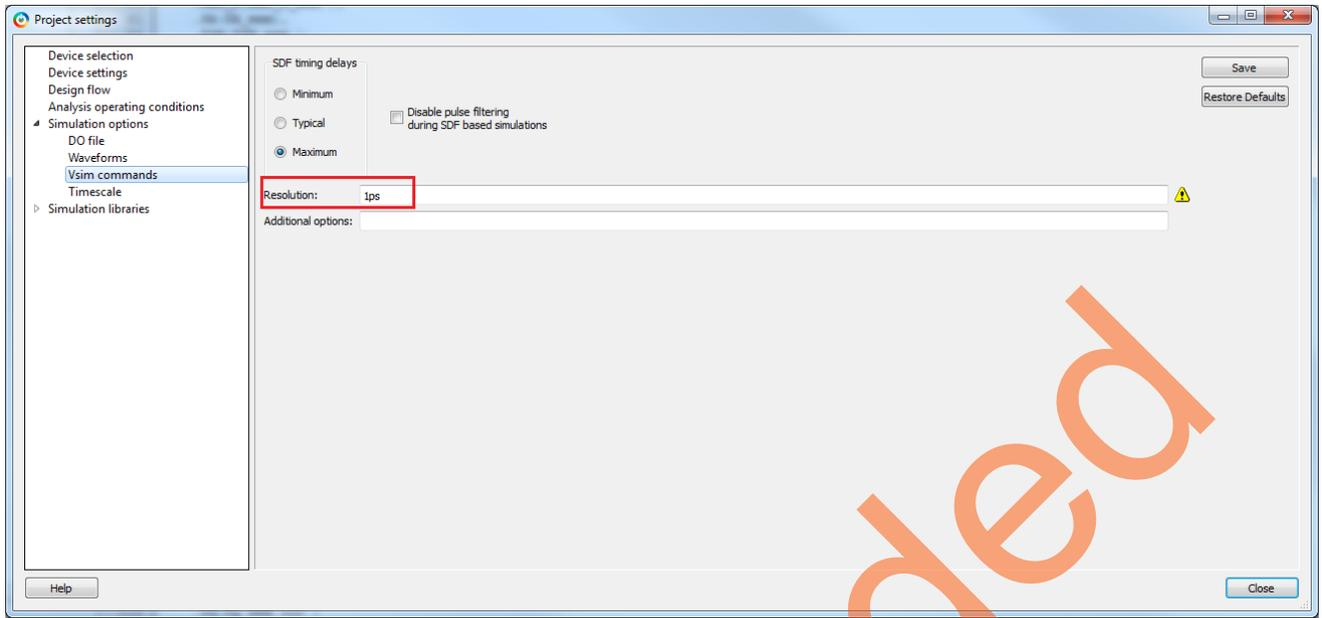

Figure 35. Simulation Resolution
4. Select the **Vsim Commands** option under the **Simulation Options**, and modify the **Resolution** to **1ps**, as shown in Figure 35. This option sets the simulation resolution to 1 ps.